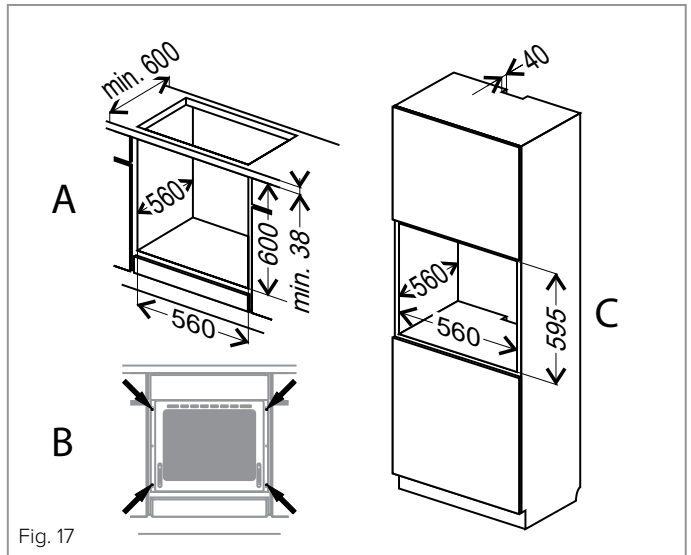

Fig. 17
**You will need the housing area in fig. 17 to fit your oven correctly.**
Lift the oven carefully into position on the shelf, taking care NOT to lift it by the door handle. If you lower the oven door, you will see 4 screw holes, 2 on each side of the oven (image B fig. 17). The oven should then be secured to the housing by securing screws into these holes. Remember, the housing should not be free standing but be secured to the wall and/or adjacent fittings.